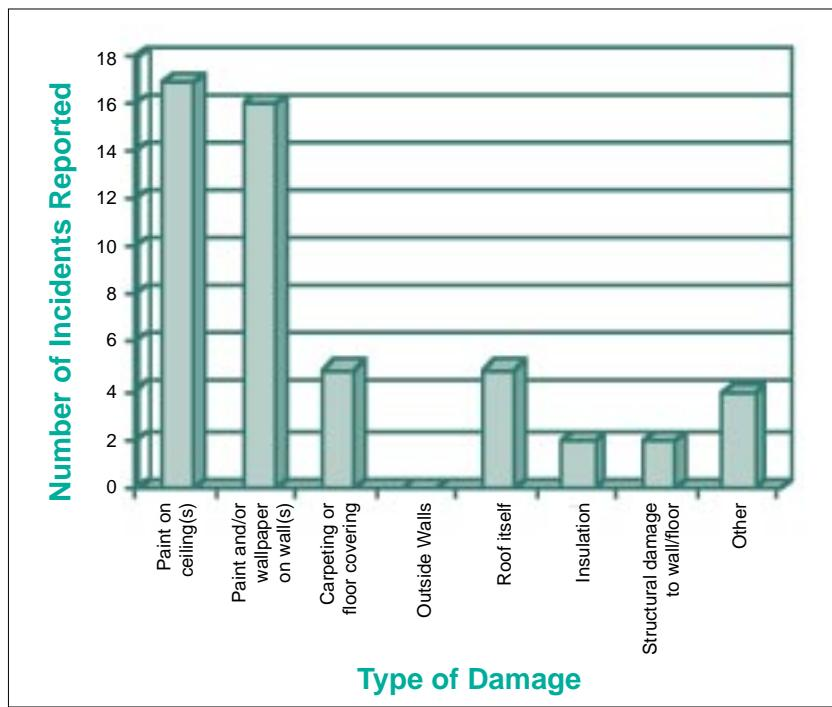

Figure 1
- The respondents reported a number of different types of damage, the most common (17 of 24) were damage to the paint on the ceilings and the paint/wallpaper on the walls (16 of 24). Few reported any form of structural damage. (See Figure 1.)